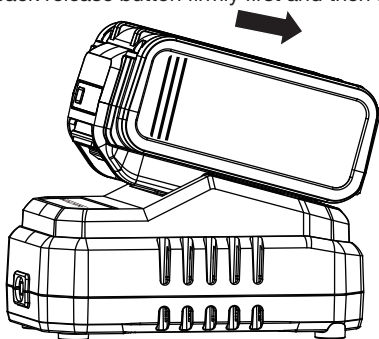

Figure 1
2. TO INSTALL OR REMOVE BATTERY PACK (NOT SUPPLIED) (SEE FIG. 1, 2)